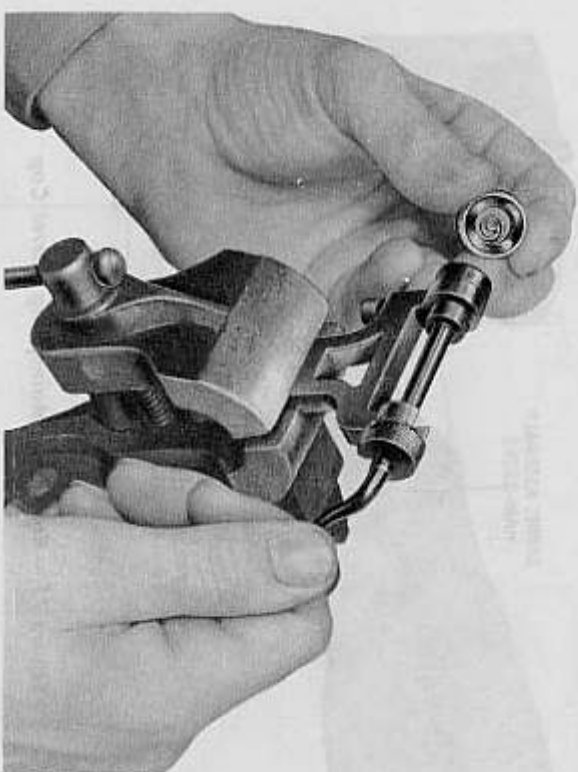

Figure 70 — Mainspring Wound in Barrel
p. Replace Hands (fig. 70). Replace seconds hand; replace hour hand with the point at the twelfth hour and the minute hand in the same manner.